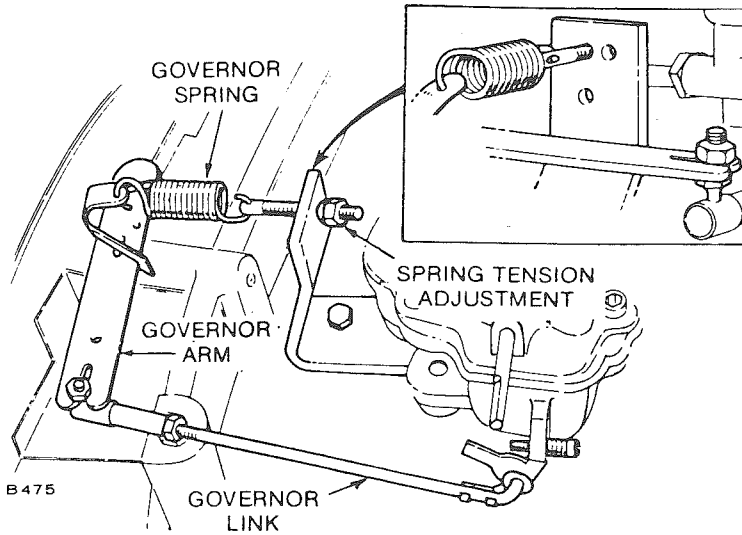

Figure 215 – Governor Adjustments
**NOTE:** If carburetor and the following governor adjustments have already been made and the governor action is still erratic, replace the governor spring (figure 215) with a new one and re-adjust the governor. Springs lose their calibrated tension through fatigue after long usage.